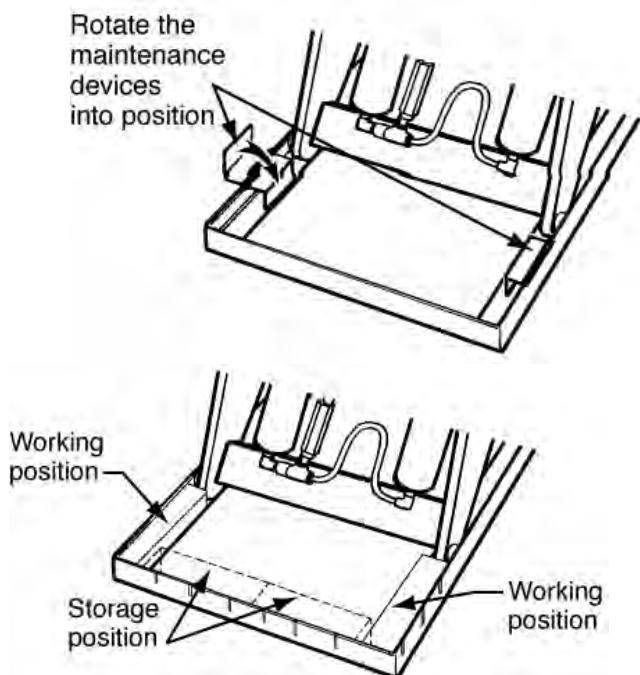

Fig. 1 – Safe Servicing of Lift
3. Remove the maintenance device(s) from its/their storage location and place it/them into the engaged position as shown in Figure 1.
12. **Raise and chock the lift**, as shown in Fig. 1.
When adjusting the flow control, always raise the lift table and insert the maintenance chocks, as shown in Fig. 1. Don't try to adjust the flow control while pressing the “down” button. If you try this, the lift table may drop suddenly, and you may be hurt.
- **Raise the lift table and chock the legs**, as shown in Fig. 1.
- Every time you want to change the adjustment again, raise the table again and insert the chocks as shown in Fig. 1.